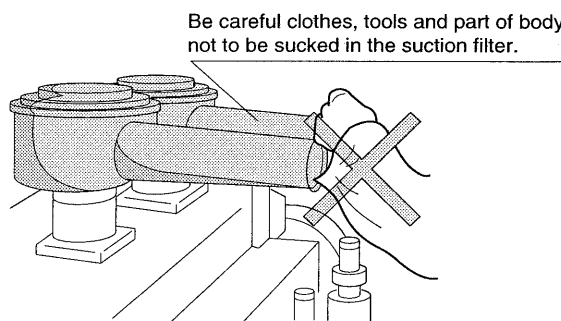

Fig. 7
* **Do not approach the suction filter during operation of the compressor. You will be sucked by strong sucking force. (Fig. 7)**